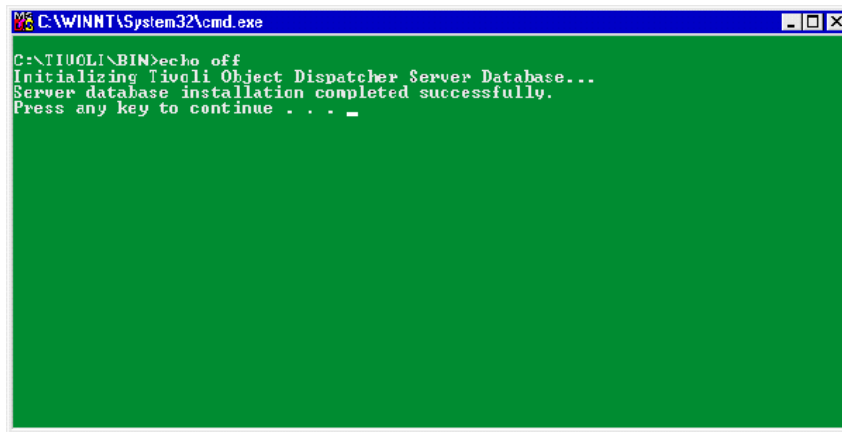

Figure 23. Database installation window
13. You will see an MS-DOS window that will report the database installation status as shown in Figure 23 on page 48. Press any key after the initialization completes.